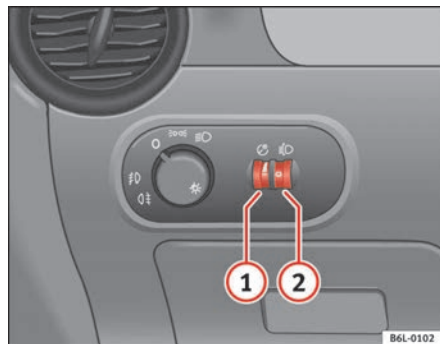

Fig. 57 Instrument panel: regulation for instrument and switch illumination and headlight range control
When the headlights are switched on, the brightness of the instruments and switch lighting can be regulated to suit your requirements by turning the thumb wheel → fig. 57 ①.